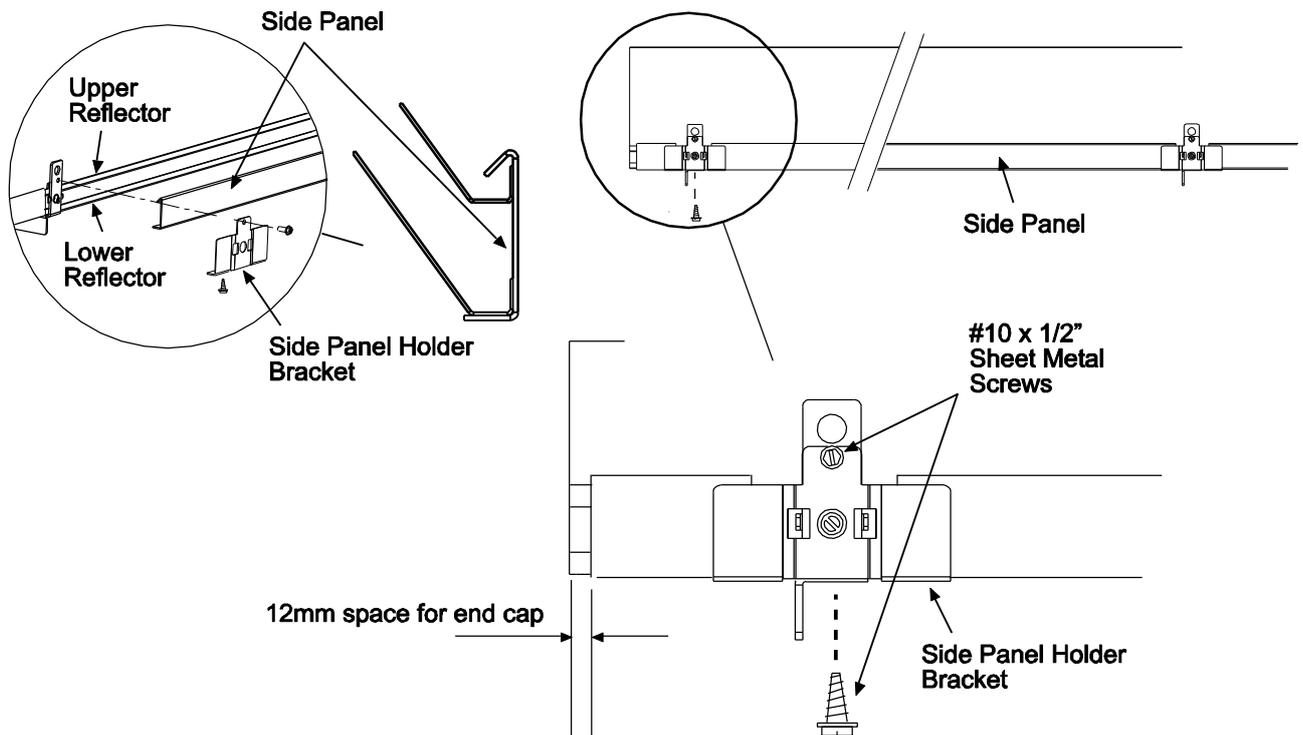

Fig. 21o
14. Place **side panels** over the sides of both reflector panels between each tube support/hanger bracket and at the ends of the heater. Secure these in place using the side panel holder brackets and two #10 x 1/2" sheet metal screws supplied in fastenings kit. See Figure. 21o below: